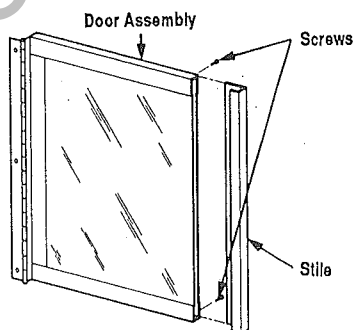

Figure 46
To remove the glass from the doors, remove the two (2) screws from the door stile, remove the stile and slide out all old glass pieces and slide new glass pane into the frame. Reassemble the end stile with the two screws previously removed (Figure 46).